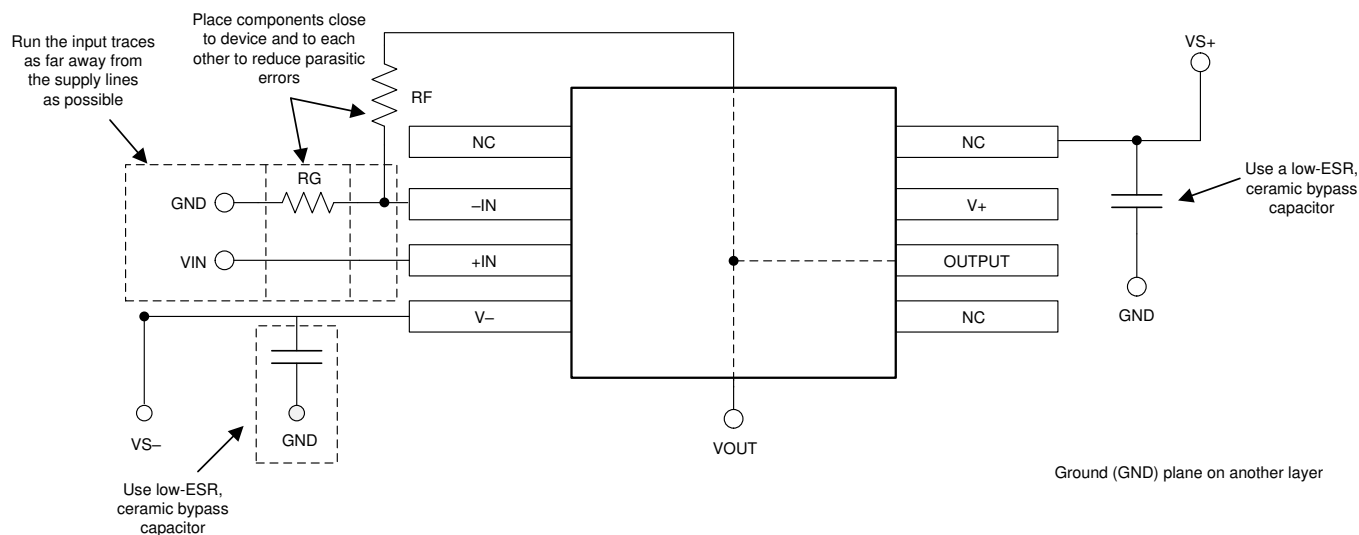

Figure 67. Operational Amplifier Board Layout for Noninverting Configuration
- Place the external components as close to the device as possible. As shown in Figure 67, keeping RF and RG close to the inverting input minimizes parasitic capacitance.